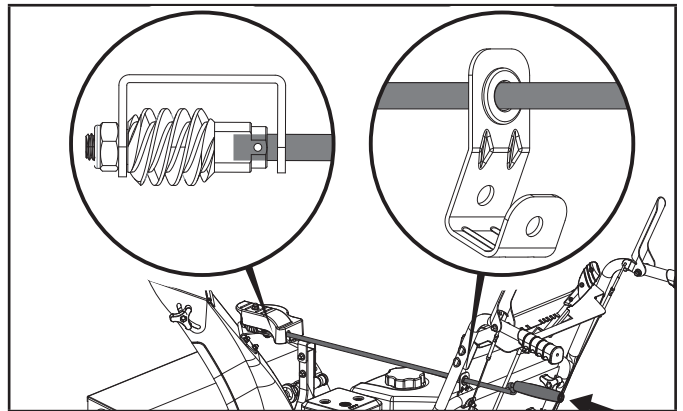

Figure 12A
2. Insert the lever through the discharge chute bracket on the lower handle, and then into the hole of the gear (Fig. 12A).